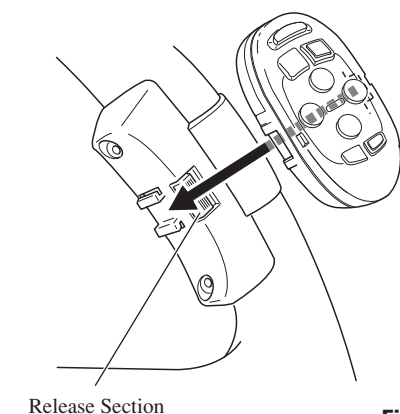

Fig. 19
4. Install the remote control unit in the holder. (Fig. 19)